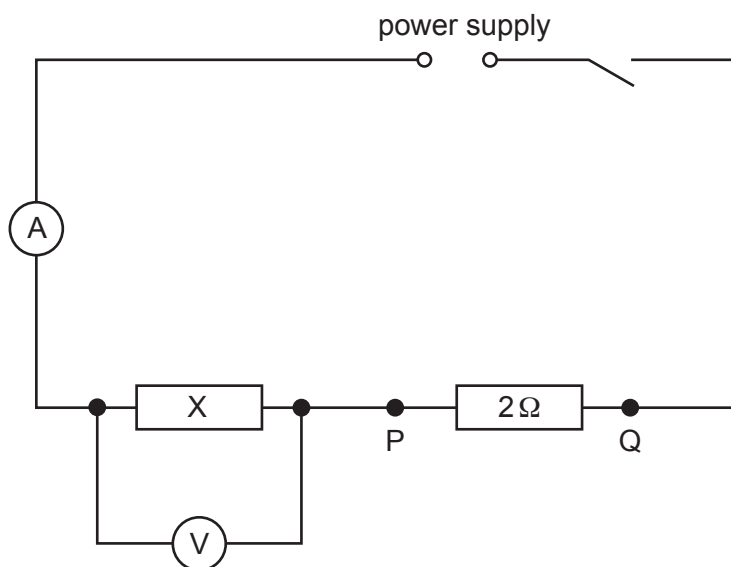

Fig. 2.1
- (v) Sufficient connecting leads to set up the circuit shown in Fig. 2.1, with 2 spare leads.
1. The circuit is to be set up for candidates as shown in Fig. 2.1. Two terminals must be labelled P and Q and candidates must be able easily and quickly to connect and disconnect circuit components between them.
Connect the circuit as shown in Fig. 2.1 and check that the circuit is working.